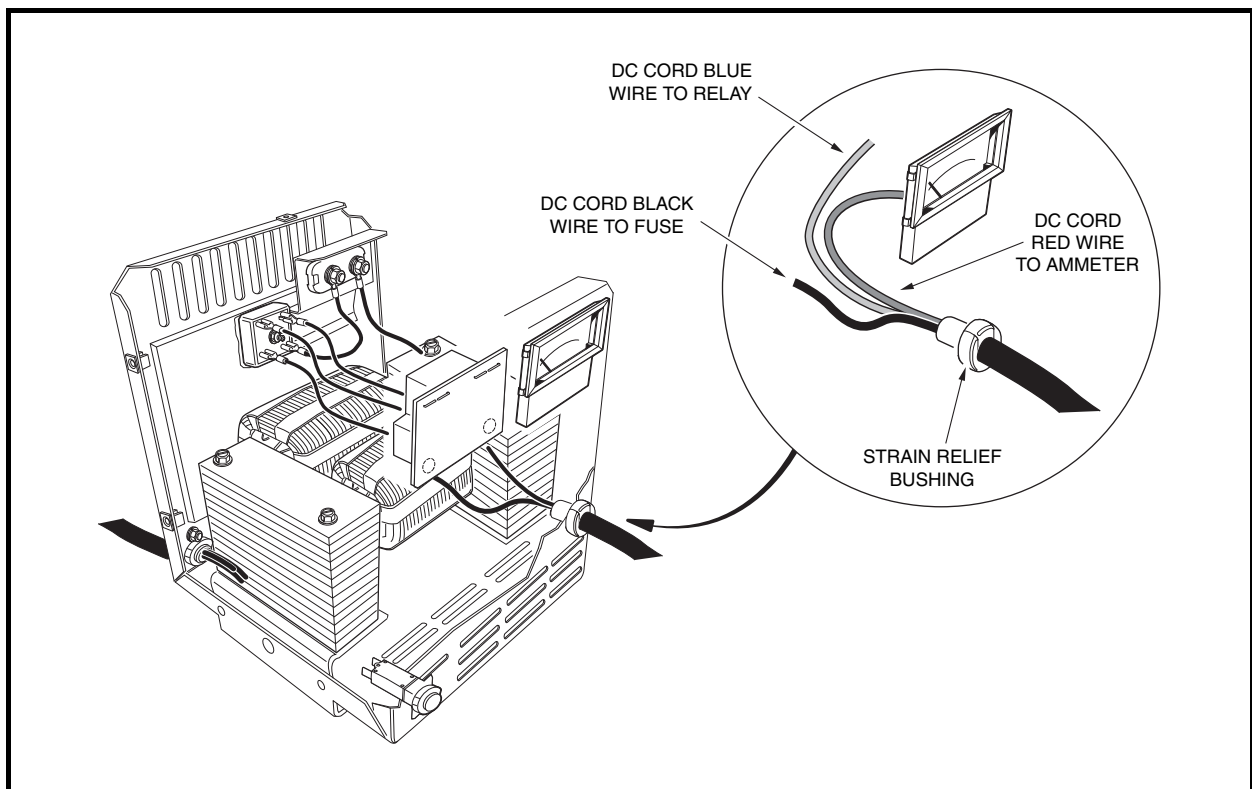

Figure 6-23 DC Cord
3. To check the continuity of the DC cord, disconnect the black wire of the DC cord from the fuse (**Figure 6-23, Page 6-27**).
3. Remove the DC cord black wire from the fuse by loosening the nut on the fuse (**Figure 6-23, Page 6-27**).
2. Attach the red wire of the new DC cord to the ammeter (**Figure 6-23, Page 6-27**).